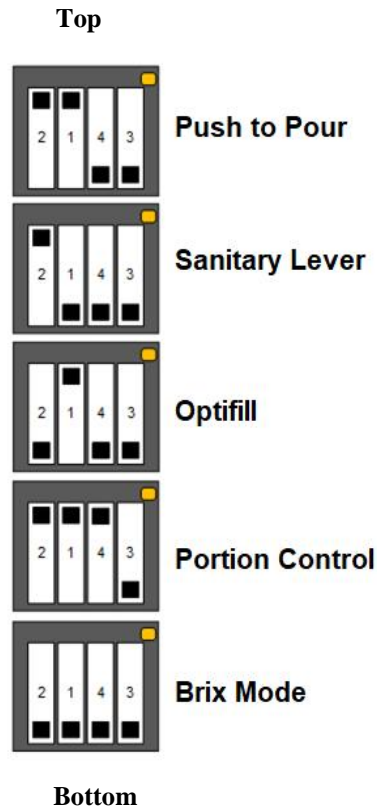

Figure 4.
3. Enter into "brix mode" by adjusting the valve dip switch. Set the dip switches as shown in Figure 4. Press and release the water button. The valve will dispense a preset amount of water. Adjust the flow rate using the valve flow control until the flow rate is adjusted properly. After water is adjusted properly - use the syrup buttons to dispense a preset amount of syrup. Adjust the corresponding syrup flow control until the syrup flow rate is adjusted properly.